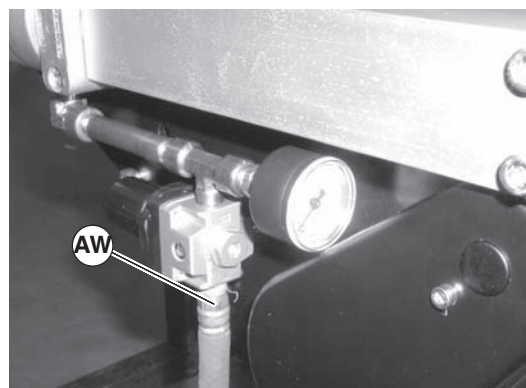

Figure 39
5. Reattach air supply (Figure 39, item AW) to center drive. Refer to “Conveyor Belt Tensioning” section on page 17 for more information.